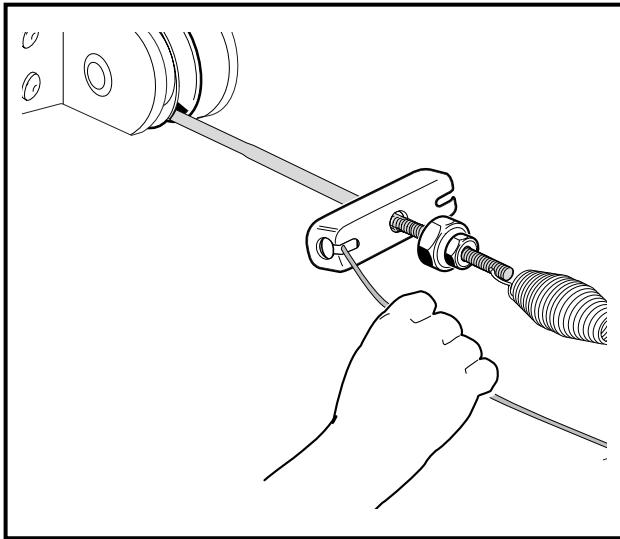
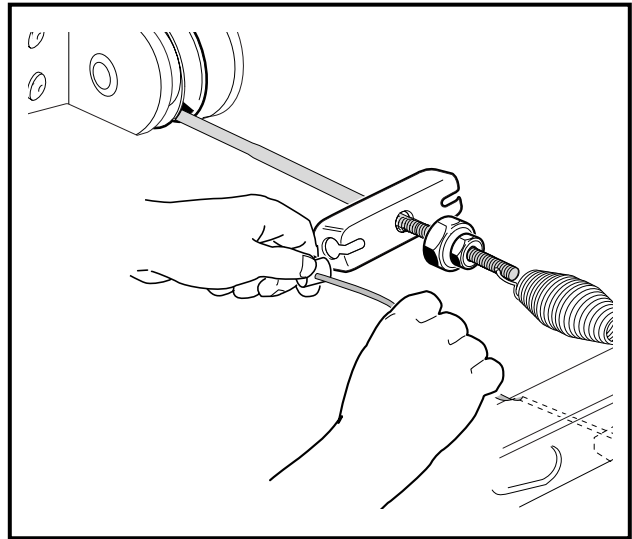

Figure 6-25 Wheel Brake Cable Removal
Figure 6-26 Wheel Brake Cable Removal
3. Pull the wheel brake cable to the side and remove the cable end from the keyhole opening in the park brake equalizer (**Figure 6-25, Page 6-33 and Figure 6-26, Page 6-33**).